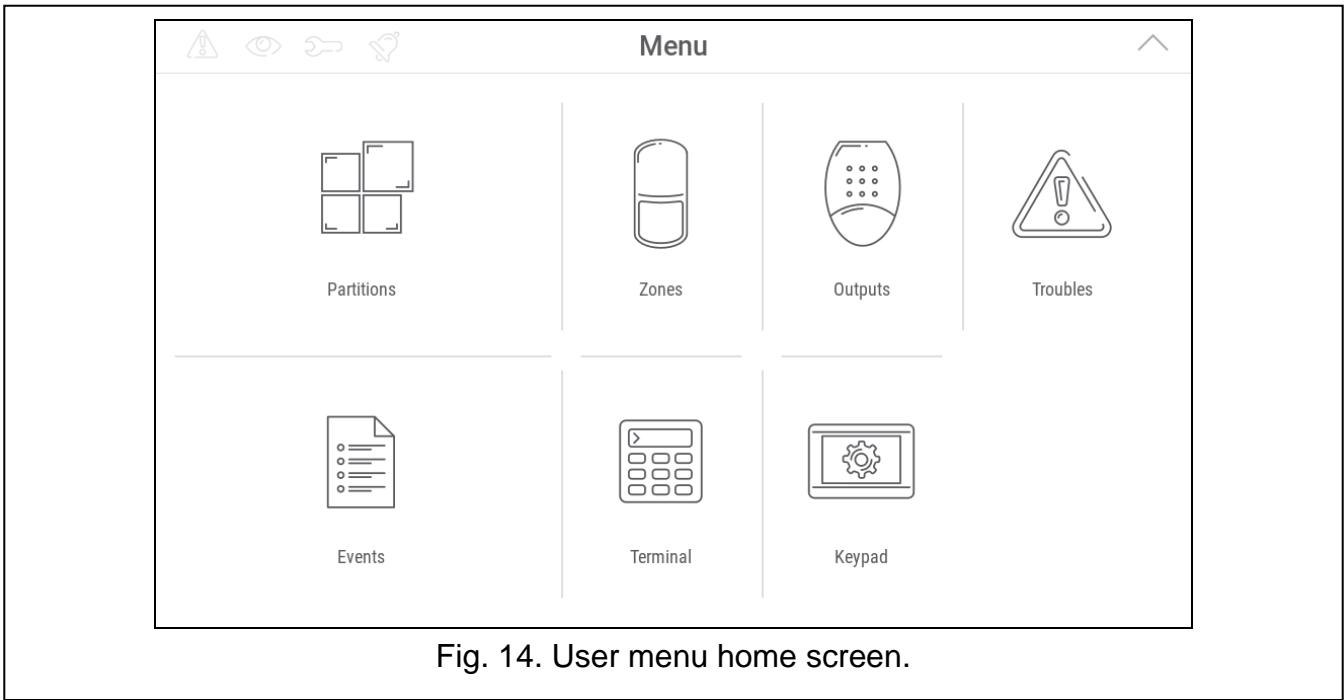

Fig. 14. User menu home screen.
- 3. Enter the service code (by default: 12345) and tap . The user menu home screen will be displayed (Fig. 14).